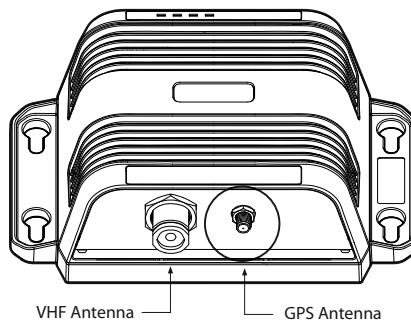

Figure 8 Position of the GPS antenna connector
- Connect the cable from the GPS antenna to the GPS connector on the AIS transceiver as shown in Figure 8.